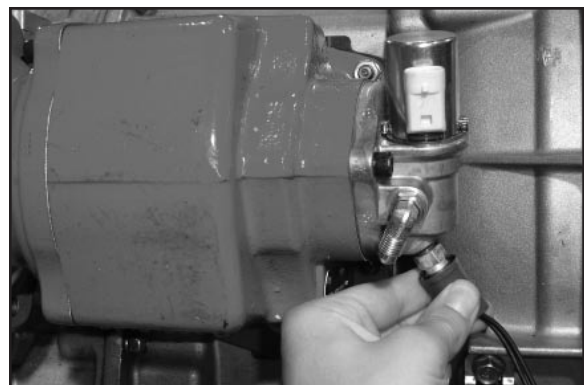

Fig. 8
8. Install P.T.O. pressure switch, part # 379502, into port on Hydraulic Valve Cap. Torque to 120-140 In-lbs (**Fig. 8**).